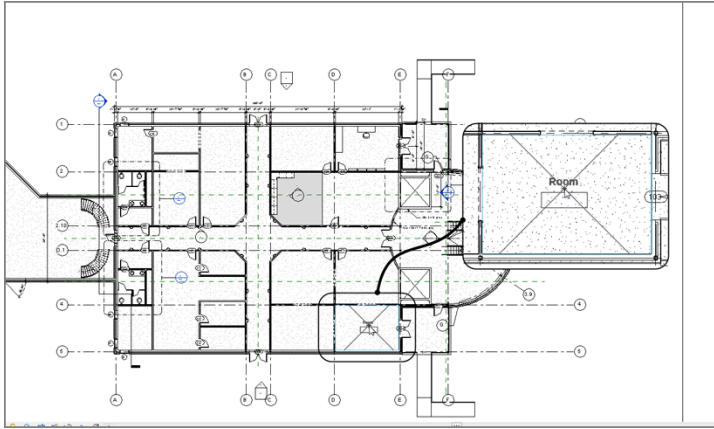

FIGURE 15.2: When you hover your mouse over the intended area of the room, you see an indication that Revit has found the bounding edges.
- 3. Hover your cursor over the southeast room, as shown in Figure 15.2. An X appears, along with the outline of a room tag.